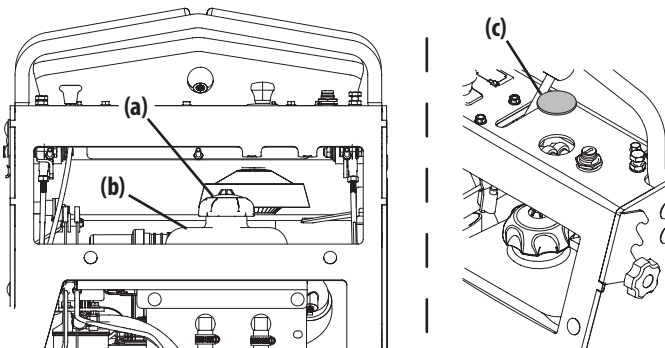

Figure 28
4. Remove the hydrostatic transmission oil reservoir cap (a) (Figure 28).
5. Mowers with 48, 54 or 60 inch Mowing Decks Only: Insert a funnel into the reservoir (b) (Figure 28).
- a. Remove the black cap (c) from the control panel by reaching under the panel and squeezing the two tabs and pushing up (Figure 28).